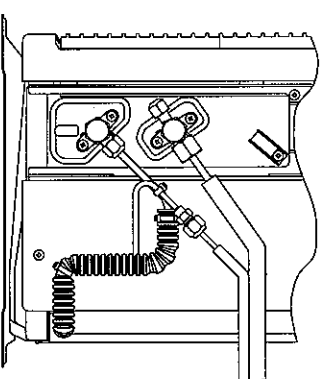

Figure 8
11. Connect the pipes. As shown in figure 8. Connect the hot pipe between the smaller side service valve and the smaller pipe. Adjust the length of the smaller pipe by cutting off the excess.